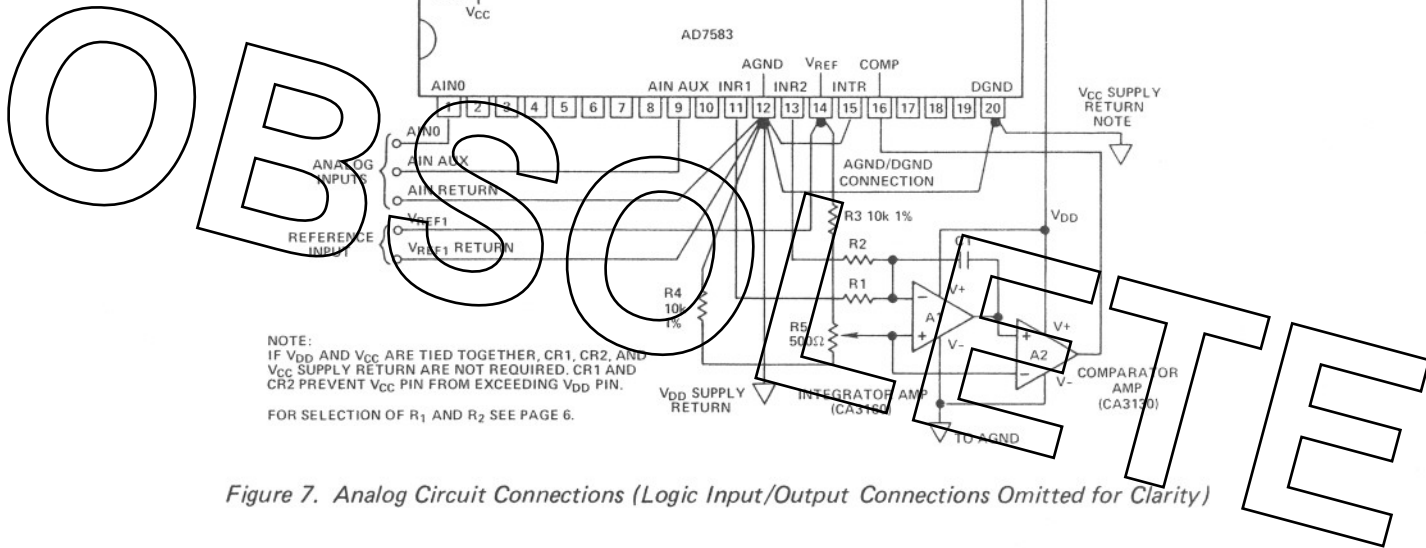

Figure 7. Analog Circuit Connections (Logic Input/Output Connections Omitted for Clarity)
1. The AGND/DGND connection should be made at the AD7583, as shown in Figure 7. In systems where the connection must be remote, connect back-to-back diodes (1N914 or equivalent) between pin 12 and 20 of the AD7583.
2. Failure to observe correct grounding techniques can introduce conversion error and/or noise. System analog common must be located directly at pin 12 of the AD7583, as shown in Figure 7.